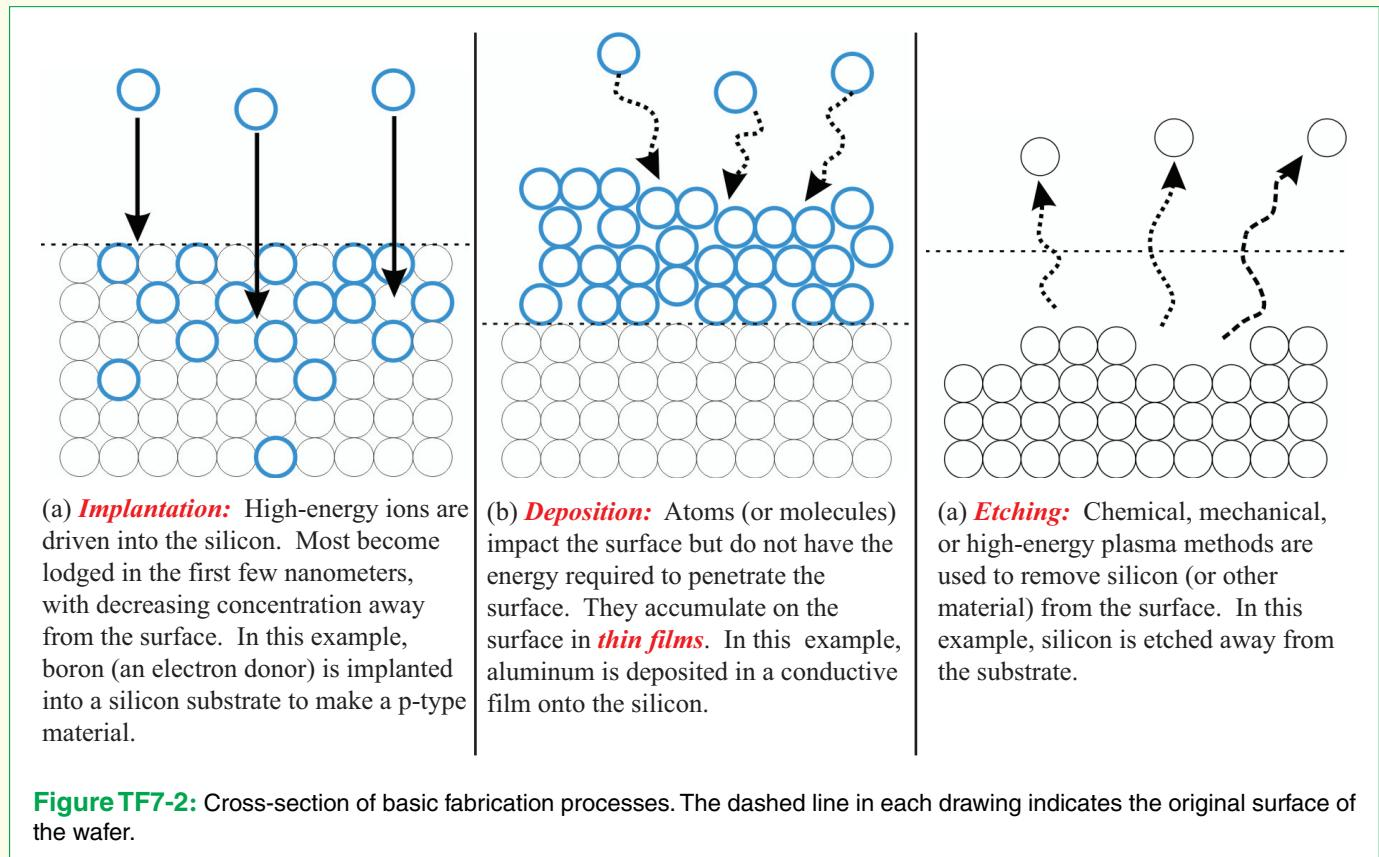

Figure TF7-2: Cross-section of basic fabrication processes. The dashed line in each drawing indicates the original surface of the wafer.
- **Implantation:** Atoms or molecules are driven into (implanted in) the silicon wafer, changing its electronic properties (Fig. TF7-2(a)).
- **Deposition:** Materials such as metals, insulators, or semiconductors are deposited in thin layers (like spray painting) onto the wafer (Fig. TF7-2(b)).
- **Etching:** Material is removed from the wafer through chemical reactions or mechanical motion (Fig. TF7-2(c)).